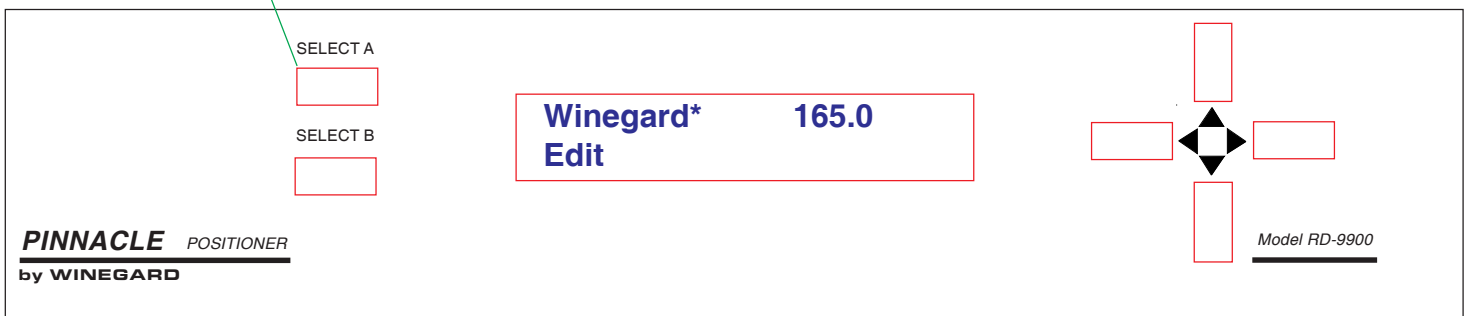

Figure 38
7. Press **[SELECT A]** again to enter your new satellite as the search satellite. See figure 38.